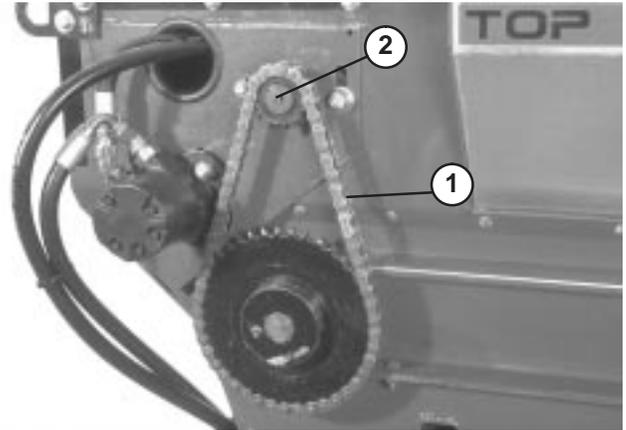

Figure 22
2. Loosen bolts and nuts securing motor and sprocket assembly to the main frame (Fig. 22).